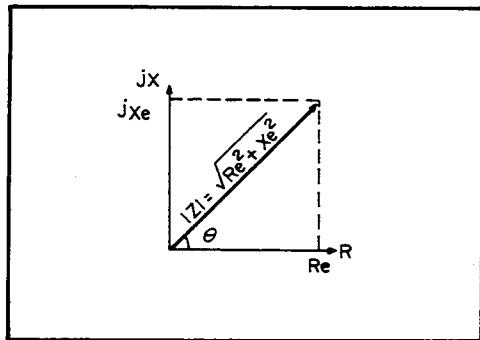

Figure 3-28. Impedance Vector Representation
3-88. The impedance of a component can be expressed in vector representation by a complex number as shown in Figure 3-28. In such representation, the effective resistance and effective reactance correspond to the projections of the impedance vector  $|Z| < \theta$ , that is, the real (R) axis and the imaginary ( $jX$ ) axis, respectively.